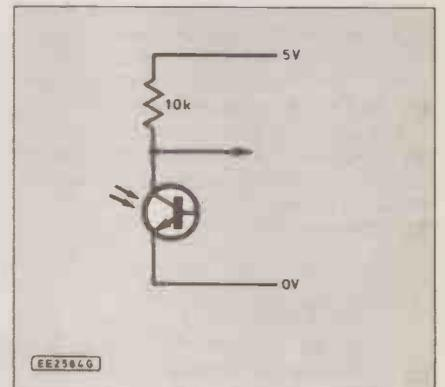

Fig. 7.2. Phototransistor sensor circuit. A small lamp or l.e.d. may be used as a light source.
**T** Can anyone help? Yes, that's the idea (Fig. 7.2). A phototransistor (or diode) is smaller than an l.d.r. The change in resistance is used to make a transistor conduct (or not conduct).